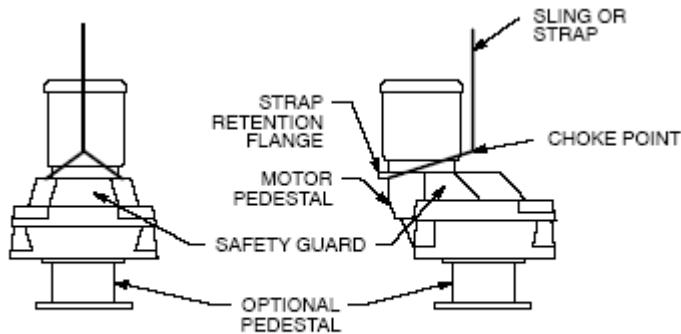

FIGURE 1
- a. Refer to Figure 1 for proper lifting scheme.
- b. Place a "choker" sling or strap around the motor pedestal (230). Ensure the strap is BELOW the strap retention flange.